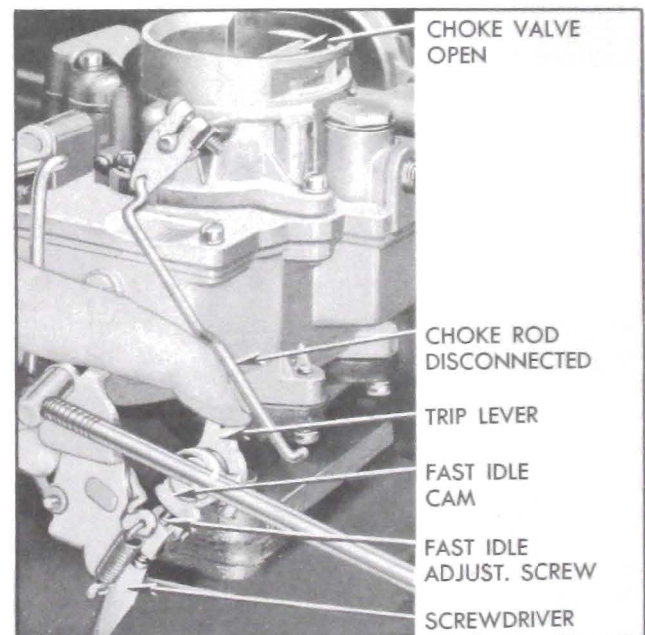

Figure 3-26—Setting Carter Fast Idle—Carburetor on Engine
6. If carburetor is installed, warm engine up to normal operating temperature and connect a tachometer to register engine speed. Disconnect fast idle connector rod from cam trip lever so that cam may be held in "cold" position while engine is running with choke valve fully open. See figure 3-26.
(a) *If carburetor is on engine*, turn adjustment screw to obtain engine speed of 1200 RPM. See figure 3-26.